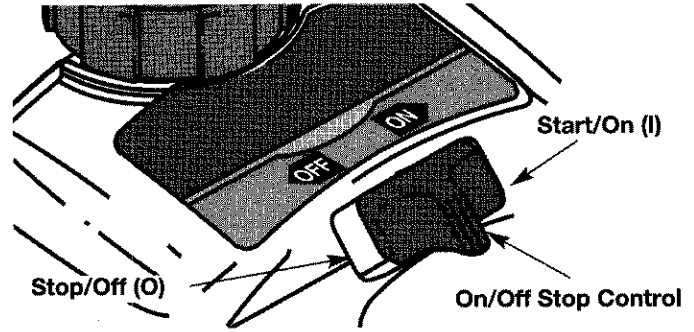
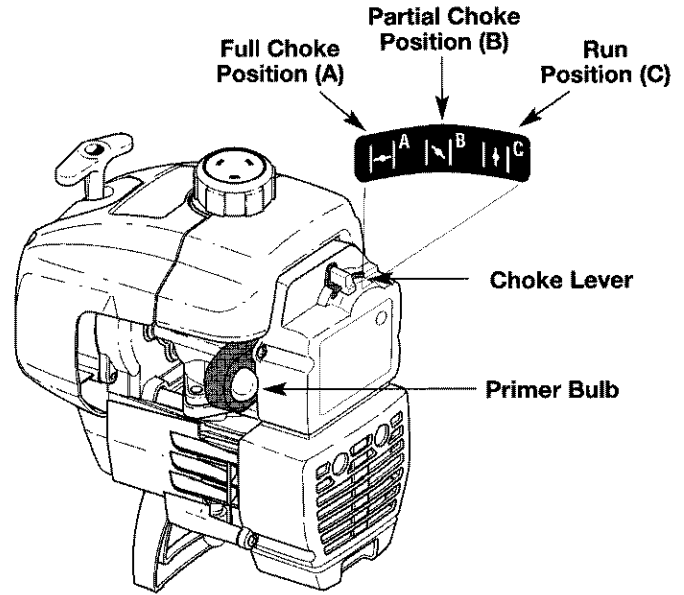

Fig. 9
Fig. 10
2. Put the On/Off Stop Control in the **ON (I)** position (Fig. 9).
3. Fully press and release primer bulb slowly 5 to 7 times. Fuel should be visible in the bulb (Fig. 10). If fuel is not visible, press three (3) more times, or until it is.
4. Place the choke lever in the **FULL** choke (A) |←| position (Fig. 10).
6. Place the choke lever in the **PARTIAL** choke (B) |↘| position (Fig. 10).
NOTE: If the engine floods while trying to start, place the choke lever in the **RUN** (C) |↑| position (Fig. 10). Squeeze the throttle control. Pull the starter rope briskly. The engine should start within three (3) to eight (8) pulls.
9. Squeeze the throttle control to warm up engine for 5 to 10 seconds. Place the choke lever in the **RUN** (C) |↑| position (Fig. 10).
NOTE: Choking is unnecessary when starting a warm engine. Put the On/Off Stop Control in the **ON** position (Fig. 9), and start in **PARTIAL** choke (B) |↘| position (Fig. 10).
2. Put the On/Off Stop Control in the **OFF (O)** position (Fig. 9).